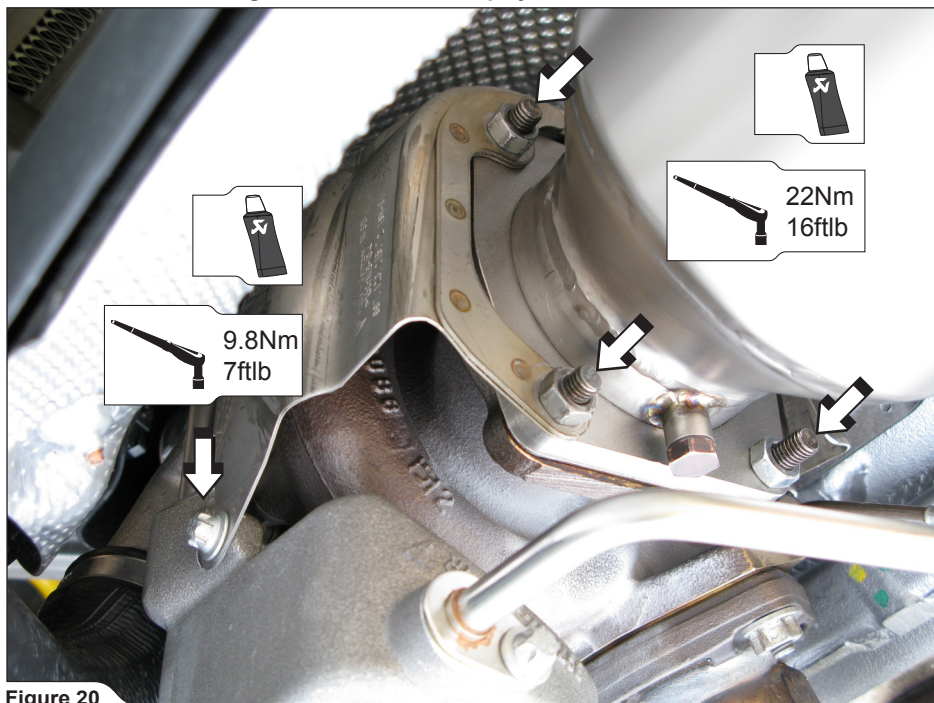

Figure 20
5. For Slip-On Race, Evolution Race and Upgrade Kit1/2: hang the muffler together with Link-Pipes onto the vehicle. Tighten the Link-Pipes and heatshields onto the turbines to a specified torque. (Figure 20).